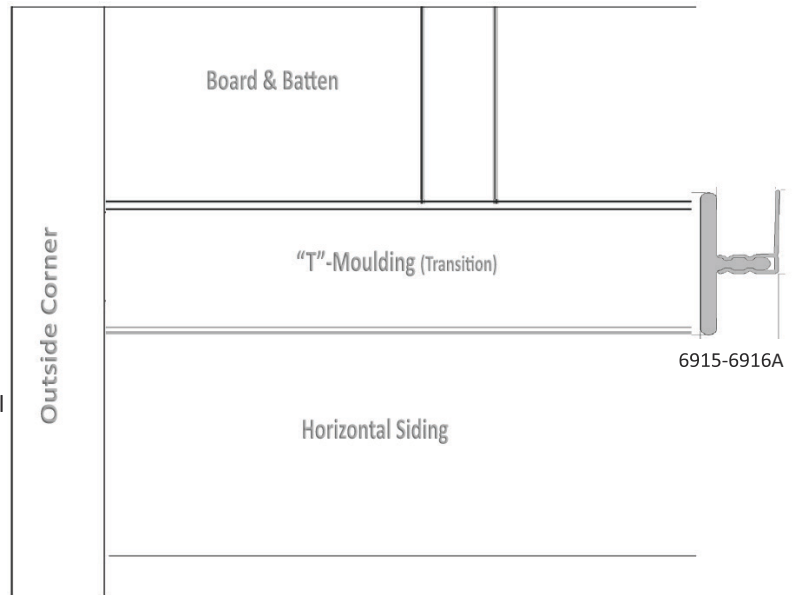

Figure 3
5. Once siding panels are installed (both sides of the transition), install the 6916A "T"-Moulding by snapping it into the Trim Receiver (Figure 3).